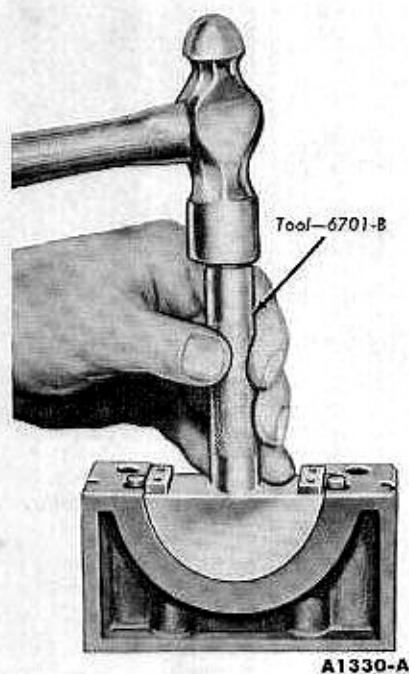

FIG. 34—Seal to Rear Bearing Cap Installation
1. Be sure that the rear journal oil seal grooves are clean, then install a new rear journal oil seal in the block (Fig. 33) and rear main bearing cap (Fig. 34). After installation, cut the ends of the seals flush.